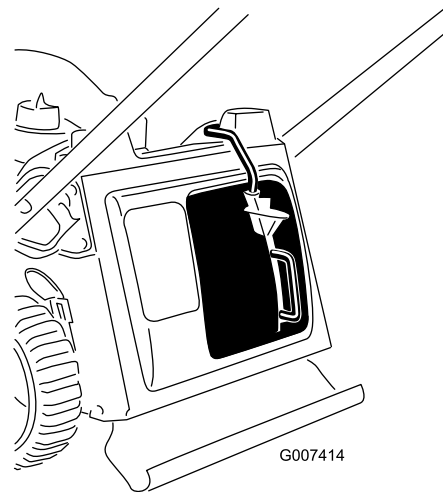

Figure 10
3. Release the button on the lever and ensure that the top of the lever lies fully in the switch channel (Figure 10). **If the top of the lever is not in the switch channel, your machine will not start.**